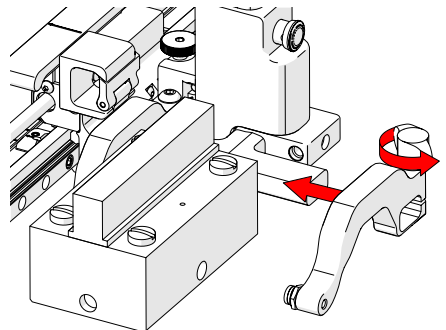

Fig. 49 - Adjust inner arm
4. Loosen the arm clamp screw (Fig. 49).
5. Place the wedge on the pivot button of the inner probe holder arm (Fig. 49).